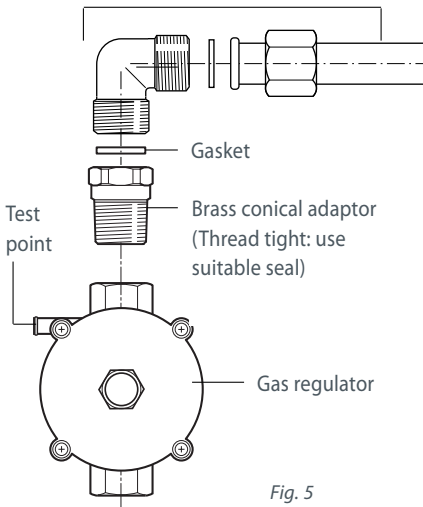

Fig. 5
- Before connecting the appliance to the gas main, mount the brass conical adaptor onto the gas inlet pipe, upon which the gasket has been placed (figures 5 and 6). Conical adaptor and gasket are supplied with the appliance (packed with conversion kit for use with Natural gas or Universal LPG).
- For Natural Gas models the gas supply is connected to the pressure regulator which is supplied with the appliance (fig. 5). Adjust the regulator to obtain a test point pressure of 1 kPa with the two semi-rapid burners operating at the maximum.
- *If the cooktop is suitable for use with Natural gas and must be converted for use with Universal LPG, before connecting to gas main remove the appliance gas regulator and replace with test point adaptor (see fig. 5, 6)*
- *If the cooktop is suitable for use with Universal LPG and must be converted for use with Natural gas, before connecting to the gas main remove the appliance test point adaptor and replace with gas regulator (see figs. 5, 6).*